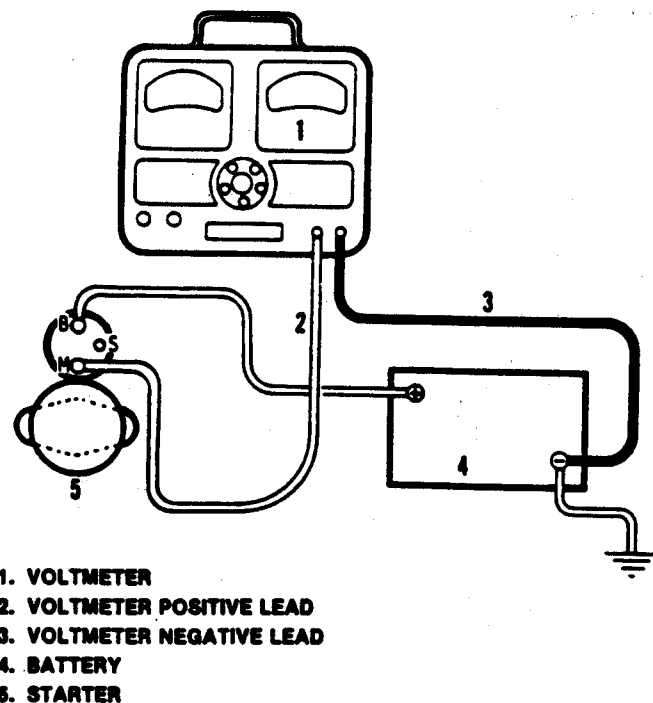

Figure 4. Insulated Circuit Test
3. See Figure 4. Check for battery voltage at Bat terminal of key switch. No voltage indicates the circuit between the key switch and starter solenoid B terminal is at fault. Check harness connections and wiring and repair as required.
1. See Figure 4. Move positive voltmeter lead to the M terminal on starter. Leave negative voltmeter lead on battery negative terminal.